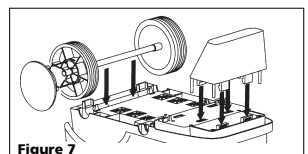

Figure 7
6. Slide wheels out and snap axle into place on the underside of body (Figure 7).
8. Attach foot to front of pressure washer body (Figure 7).